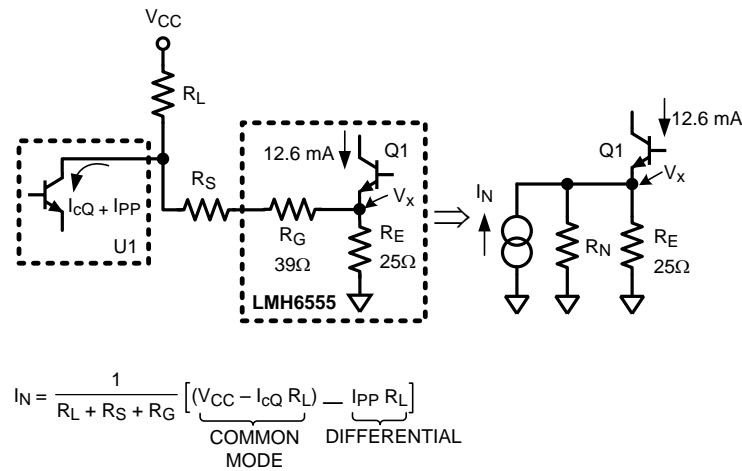

Figure 35. Norton Equivalent of the Input Circuitry Tied to Q1 within the LMH6555 in Figure 34
- b. Find the value of  $R_S$  to get the proper swing at the output (800 mVPP). To do so, convert the input stage into its Norton equivalent as shown in Figure 35
The “ $V_x$ ” node voltage within the LMH6555 (see Figure 35) would need to be calculated. Use the Common Mode component of the Norton equivalent source from above, and write the KCL at the  $V_x$  node as follows: